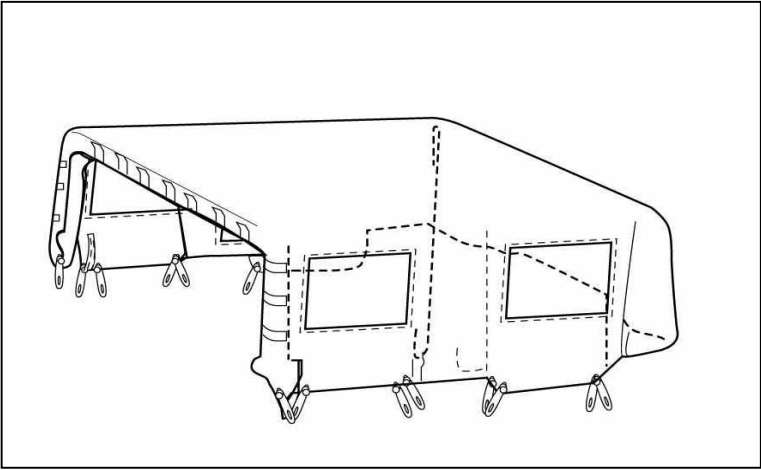

Figure 3-3-3: Tarpaulin Removal
- a. **Tarpaulin Removal.** To remove the tarpaulin (see Figure 3-3-3), proceed as follows:
- (1) unhook the elastic cord tie-downs securing the tarpaulin and flaps to the sides of the carrier;
- (2) lift straps from all securing eyes around the carrier;
- (3) fold side and doors over the roof section;
- (4) fold the back over the roof section;
- (5) fold the front 1/3 of the tarp back;
- (6) fold the middle 1/3 over the rear;
- (7) fold in half from driver side to passenger side; and
- (8) remove the tarpaulin from the roof and place it on the ground.